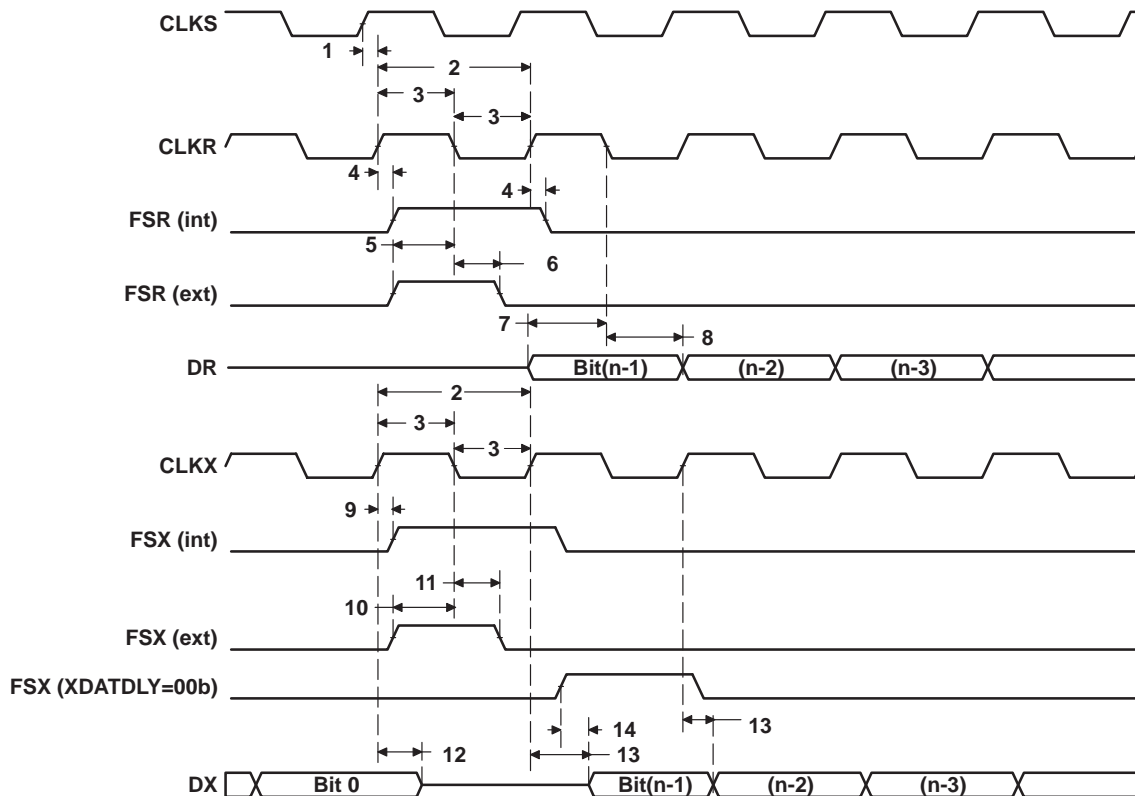

Figure 31. McBSP Timings
**timing requirements for McBSP†‡ (see Figure 31)**
### switching characteristics for McBSP†‡§ (see Figure 31)